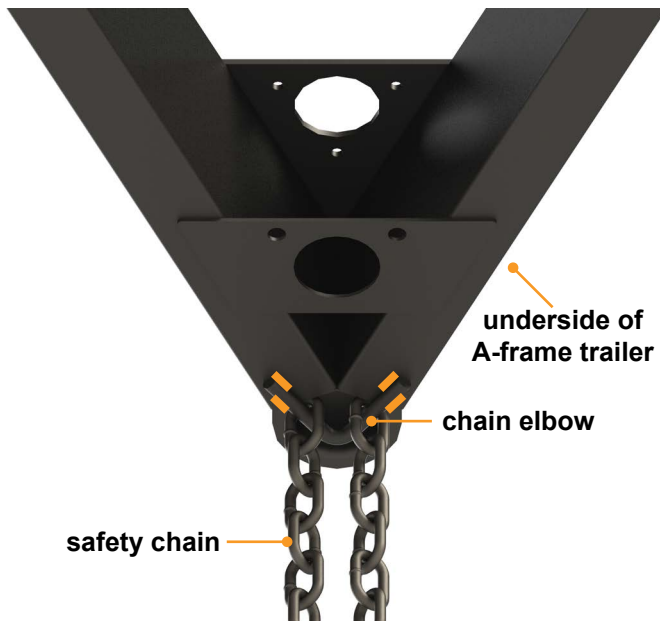

Fig.1
1. Use the die grinder with the cutting wheel attachment to remove the existing chain elbow from the underside of the A-frame coupler (Fig.1).